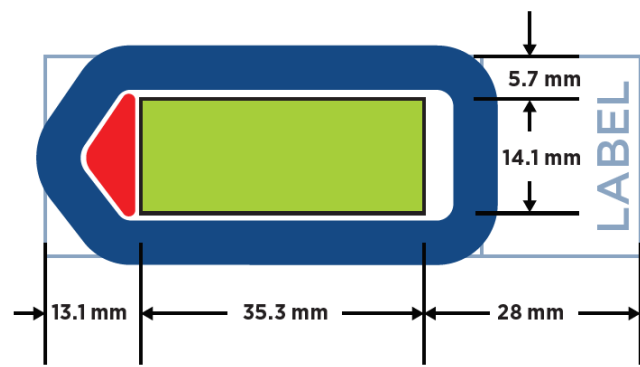

Figure 49: Slide dimensions
1. Tissue sections should be **5 μm** thick and mounted on **Apex BOND Adhesive slides**. Tissue sections must **fit within the white dots** marking the boundary on the Apex BOND slides, and be within the **Scan Area** (shown in green) (see Figure 49). Sections can be no larger than 35.3 mm long by 14.1 mm wide and should not overlap the slide gasket (shown in blue) or the Tip Calibration area (shown in red). If mounting multiple sections per slide, ensure that tissues are at least 2–3 mm apart and still fit within the Scan Area.